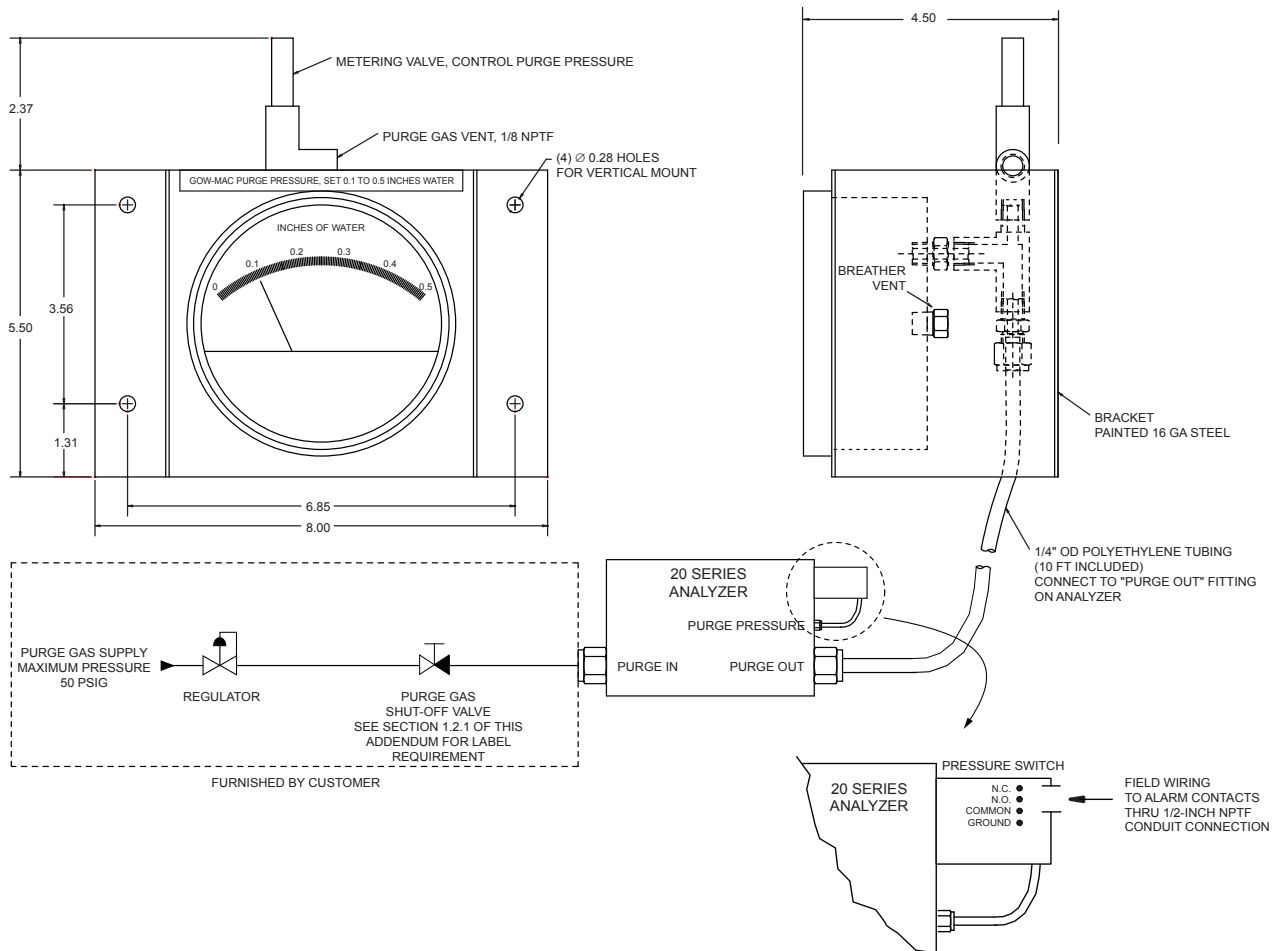

Figure A-2: Installation
- 1.1 The purge gas may be compressed air if it has been filtered for moisture, oil, and particles. Unfiltered compressed air may contain contaminants that will damage the instrument electronics. The purge gas supply should include a pressure regulator with 0-60 psi output and a shut-off valve (refer to Figure A-2).